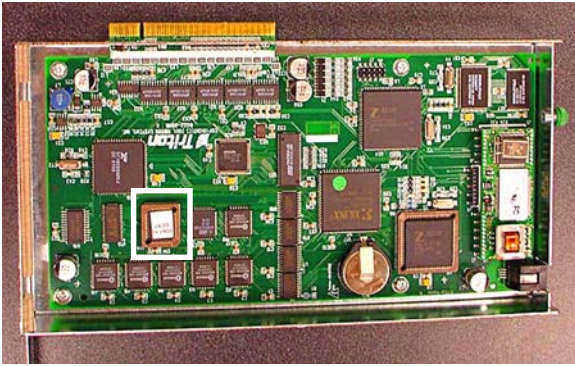
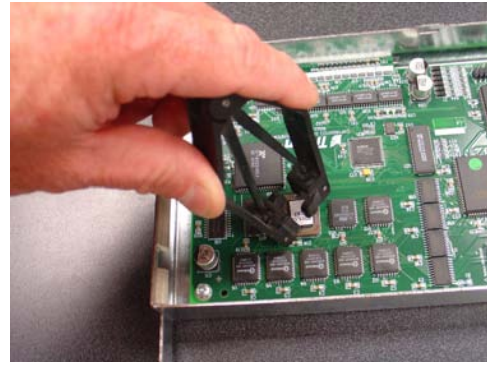

Figure 5. Eprom chip location.
Figure 6. Remove Eprom chip.
5. Locate the Eprom chip shown in Figure 5. Using the chip puller (Figure 6), remove and replace with the **ZD01.15** chip included. Reassemble the main board cover but do not install the assembly at this time.